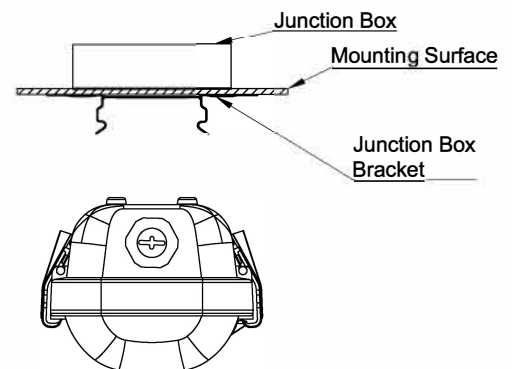

Fig 4
3. Push Housing into Junction Box Bracket to secure fixture to Mounting Surface as shown in Fig. 4.